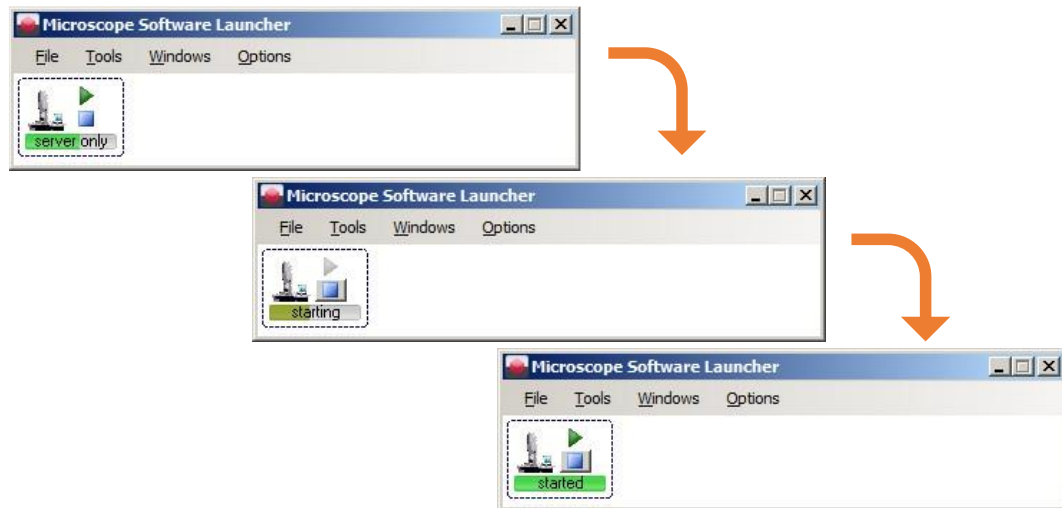

Figure 9 Process of the Microscope Software Launcher when it is started.
3.1.3 Wait about 2 minutes for the progress bar in the Microscope Software Launcher to change its status to "started," as shown in Figure 9.